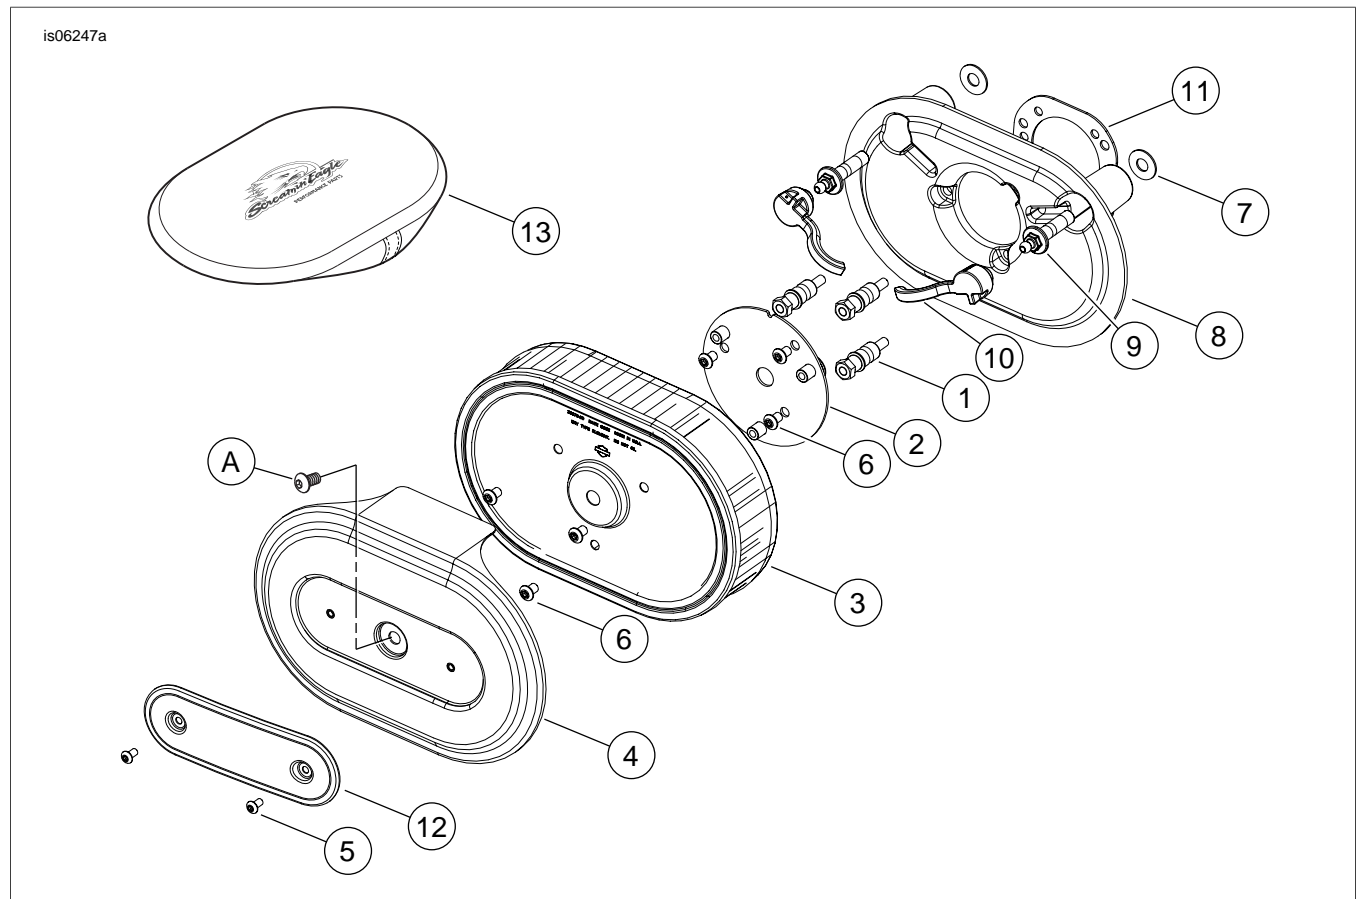

Figure 2. Service Parts: Screamin' Eagle Ventilator Performance Air Cleaner
See Figure 2 and Table 1.
1. Remove the liner from the adhesive backing of the gasket (11). Carefully position the adhesive side of the gasket to the backplate, aligning to the equally spaced screw holes, and press the gasket firmly into place.
2. See Figure 2. Insert the two breather bolts (9) through the air cleaner backplate assembly (8) and install two intake tube gaskets (7) to the breather bolts on the induction module side of the backplate assembly.
5. Thread the air cleaner mounting studs (1) all the way through the backplate (8) until the screw threads are captured in the induction module. Do not tighten completely at this time.
8. Install the adapter plate assembly (2) to the mounting studs (1) using hex socket button head screws (with Loctite applied). Tighten the screws to 55-60 **in-lbs** (4.1-6.8 Nm)
1. See Figure 2. Secure the air filter element (3) to the adapter plate assembly (2) using three hex socket button head screws (6). Tighten the screws to 55-60 **in-lbs** (6.2-6.8 Nm).
2. Apply Loctite 243 - Blue to the threads of the OE air cleaner cover screw (A). Secure the air cleaner cover (4) to the air filter element (3) with the screw. Tighten the screw to 36-60 **in-lbs** (4.1-6.8 Nm).
3. Assemble the air cleaner cover insert (12) to the air cleaner cover with two hex socket button head screws (5). Tighten securely.
1. See Figure 2. Remove the air cleaner cover (4) and inspect the filter element (3) every 5000 miles (8000 km), or more often under dusty conditions.